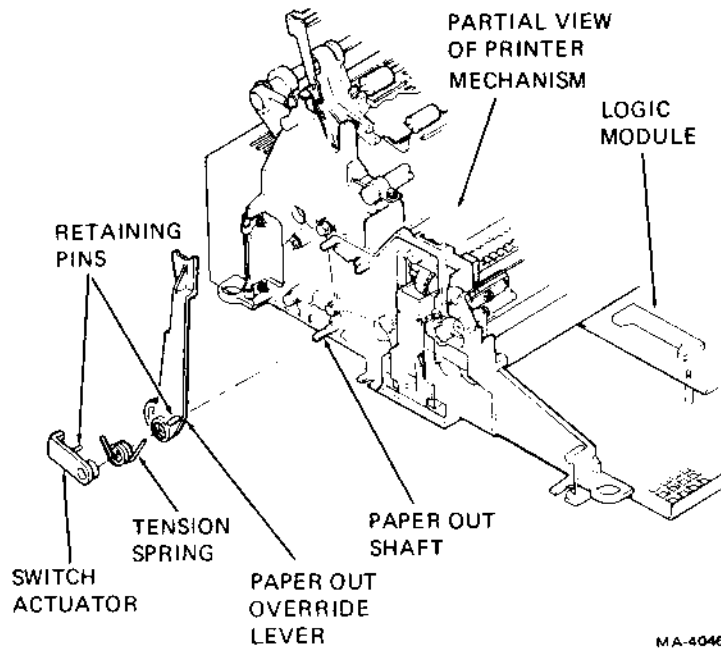

Figure 3-17 Paper Out Override Lever Installation
8. Press the paper out override lever onto the paper out shaft (Figure 3-17).
9. Spread the legs of the tension spring to increase tension. Place the spring on the switch actuator (Figure 3-17).
10. Press the switch actuator onto the paper out shaft. Make sure the spring is held in place between the retaining pins on the paper out override lever and the switch actuator (Figure 3-17).